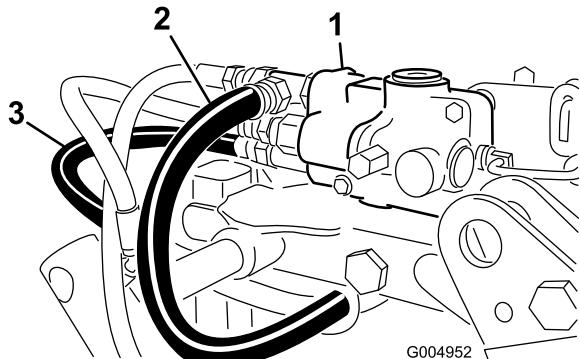

Figure 104
14. Disconnect the tank hose from the control valve (Figure 104). Cap the hose and fitting with a cap and plug. Pull the tank hose back toward the rear of the frame.
15. Disconnect the pressure hose from the control valve (Figure 104). Cap the hose and fitting with a cap and plug. Pull the hose back toward the rear of the frame.